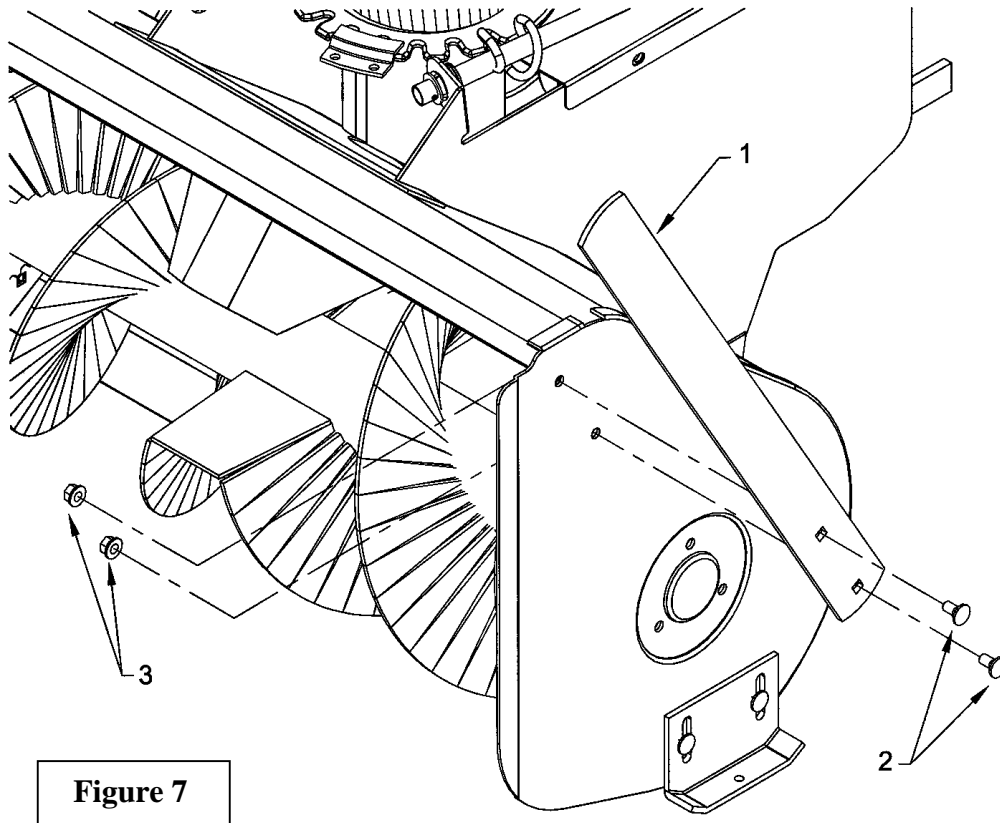

Figure 7
Step 6: Optional Drift Cutters - 8173 Installation (Figure 7)
1. From the exterior of the housing, align the two square holes on the drift cutter (item 1) with the two round holes on the housing.
2. From the outside, insert the 5/16" x 5/8" carriage bolts (item 2).
3. Secure with two flange nuts (item 3).